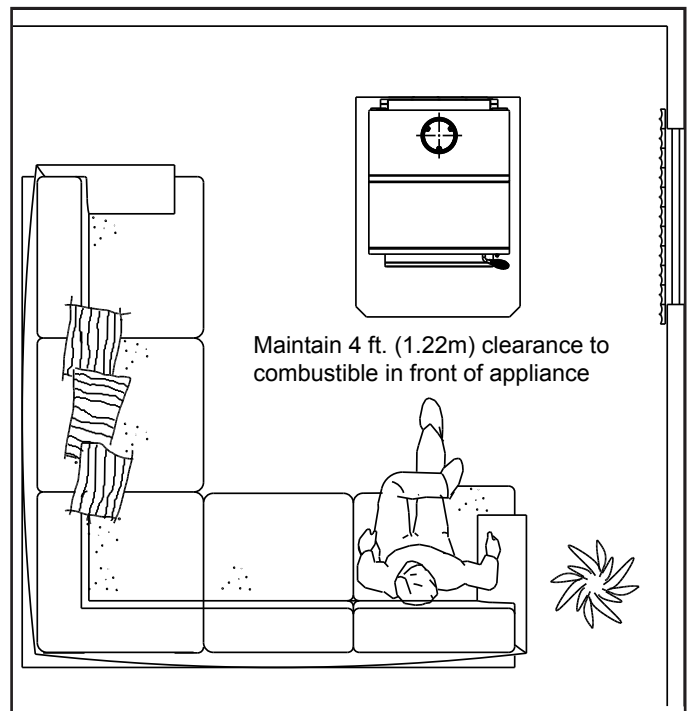

Figure 14.3
- Do NOT place combustible objects within 4 ft (1.2 m) of the front of appliance. See **Figure 14.3.**